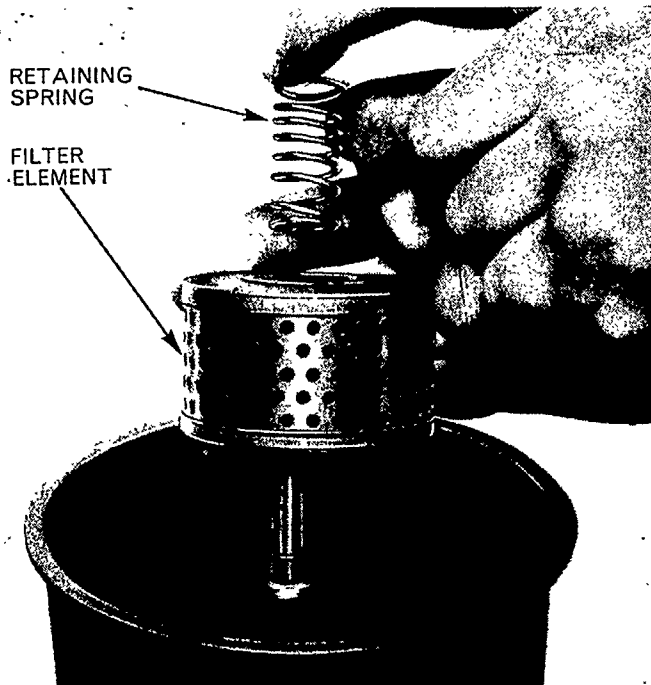

Figure 29
3. Remove the element spring and element, Figure 29.